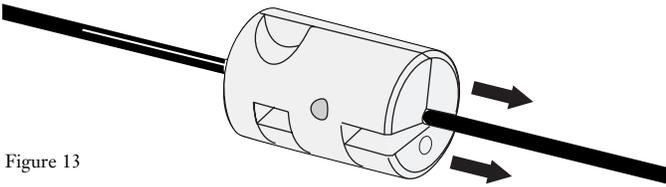

Figure 13
6.5 Carefully slit the jacket over the jacketed buffer tube with the yellow tube splitter (Figure 13).